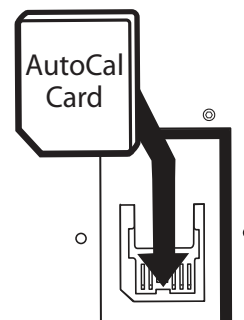

Fig. 2
8. You can now remove and set aside the back panel (Fig.2).
10. **INSTALL NEW DRIVE BELT:** Place Belt on Lower Drive Pulley (Motor Shaft). Align top of belt with top pulley. With the left hand, turn Cutter Wheel Shaft forward (away from you) and with the right thumb, press belt onto upper pulley. Check to make sure the Belt is seated properly in each pulley (Fig. 2).
2. Insert AutoCal Card into receptacle. Make sure the AutoCal Card is properly inserted (Fig. 2).
8. Remove the key and turn it around to gauge it with the tip gauge (fig. 2). The screen will read "***Set tool for tip adjustment***". Press the "**DO TIP**" button. The Tiger SHARK™ will continue to self-calibrate by repeating the touch off routines it did for the shoulder gauge. This phase will take about 3 seconds. After it finishes the Tiger SHARK™ will beep 4 times to tell you it has completed the self-calibration. After clicking "**Confirm**" it will move to the main menu.